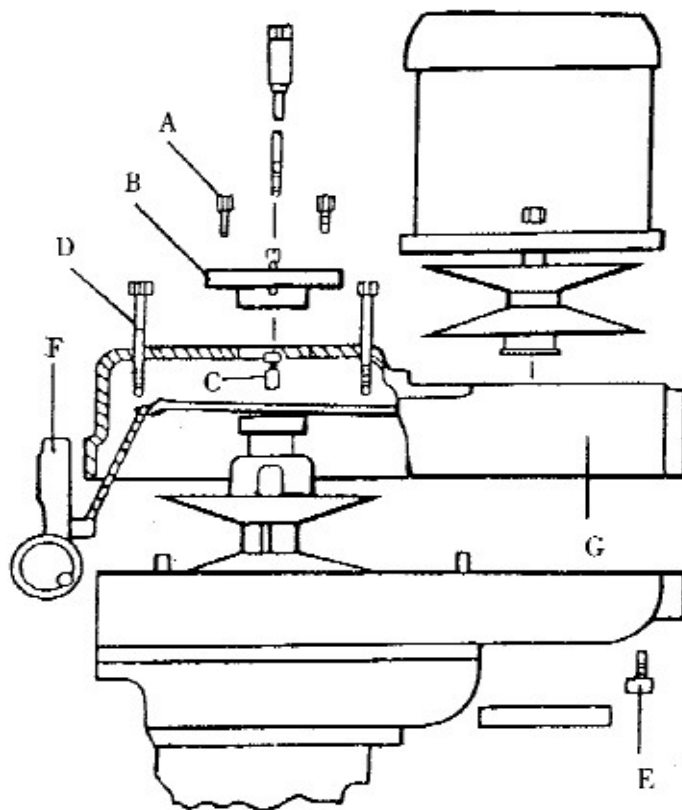

Figure 11. Removing the Vari - Drive Belt
CHANGING VARI - DRIVE BELT (Figure 11)
Complete the above procedures for removing the motor, then remove the three screw (# 1 page 38)(A, Figure 11) and lift out the top bearing cap move tow socket head cap screws (# 17 page 38) and sleeves (# 19 page 38) (C). Next ,remove the four screws (# 6 page 38) (D) and the screw (# 55 page 38) (E) holding the belt housing the belt housing (G) to the base (# 53 page 38). Unscrew and remove the two lower screws (# 25 page 36) in the speed changer bracket just below the speed dial (# 2 page 36) (F).